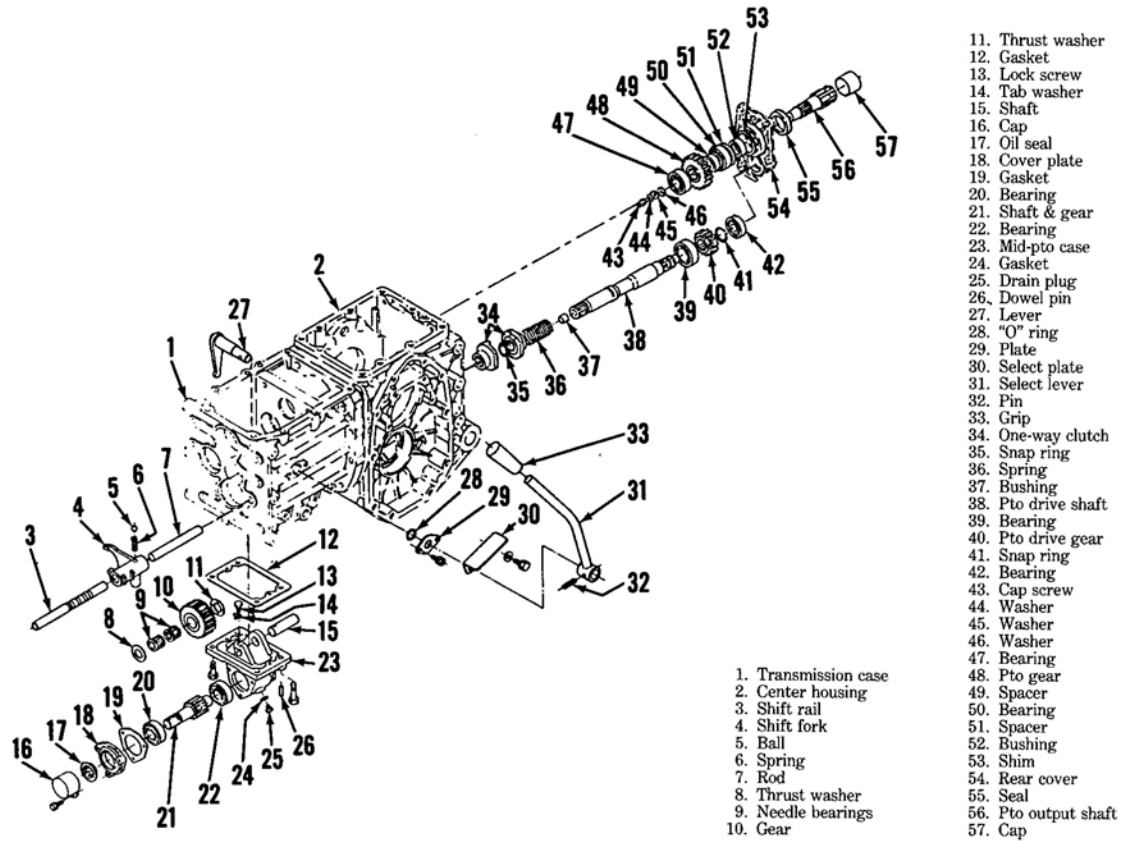

Fig. 88 — Exploded view of pto components used on Models B6100HST-D, B6100HST-E, B7100HST-D and B7100HST-E. Refer to text.
84. R&R AND OVERHAUL. Drain transmission/hydraulic system fluid into a suitable container. Raise hood and disconnect battery cable from negative battery post. To remove pto components located in center housing, first remove the six cap screws securing rear cover (54—Fig. 88) to center housing (2). Using a suitable mallet, lightly tap rear cover (54) to separate components, then withdraw rear cover with components (43 through 57). Using a suitable puller, extract bearing (42) from shaft end (38). Remove snap ring (41), then withdraw gear (40). To service one-way clutch (34) or extract pto drive shaft (38), first remove hydraulic lift cover as outlined in paragraph 99. Remove all components as needed that will obstruct in center housing and transmission case split. Using suitable holding fixtures, support center housing and transmission case, then split units apart. Remove snap ring (35) and withdraw one-way clutch half (34) and spring (36). Lightly tap front end of shaft (38) to break bearing (39)
85. R&R AND OVERHAUL. Service to pto components located in range transmission is outlined in paragraphs 69 and 70. Pto select linkage components are serviced with reference to Fig. 88 after removal of needed range transmission components to allow access to shift components.
86. R&R AND OVERHAUL. Drain transmission/hydraulic system fluid into a suitable container. Raise hood and disconnect battery cable from negative battery post. Remove the four cap screws securing case (23—Fig. 88) to bottom side of transmission case (1),
Fig. 90 — Exploded view of pto components used on Models B6100D, B6100E and B7100D. For identification of parts, refer to legend in Fig. 88 except for the following.
Disassembly of unit is evident after referral to Fig. 88. Inspect components and renew any which are damaged or excessively worn.